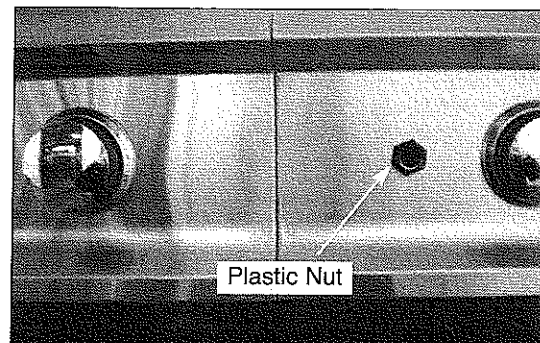

Fig 3
3. Disconnect the igniter wires underneath the side burner shelf. Then unscrew the push button cap on the side burner shelf control panel, take out the battery and unscrew the plastic nut to remove igniter module. (See Fig. 3)